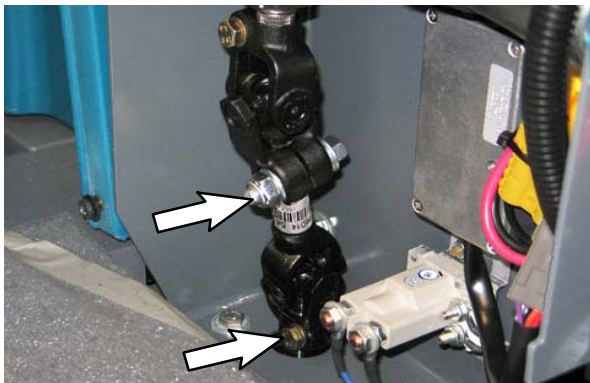
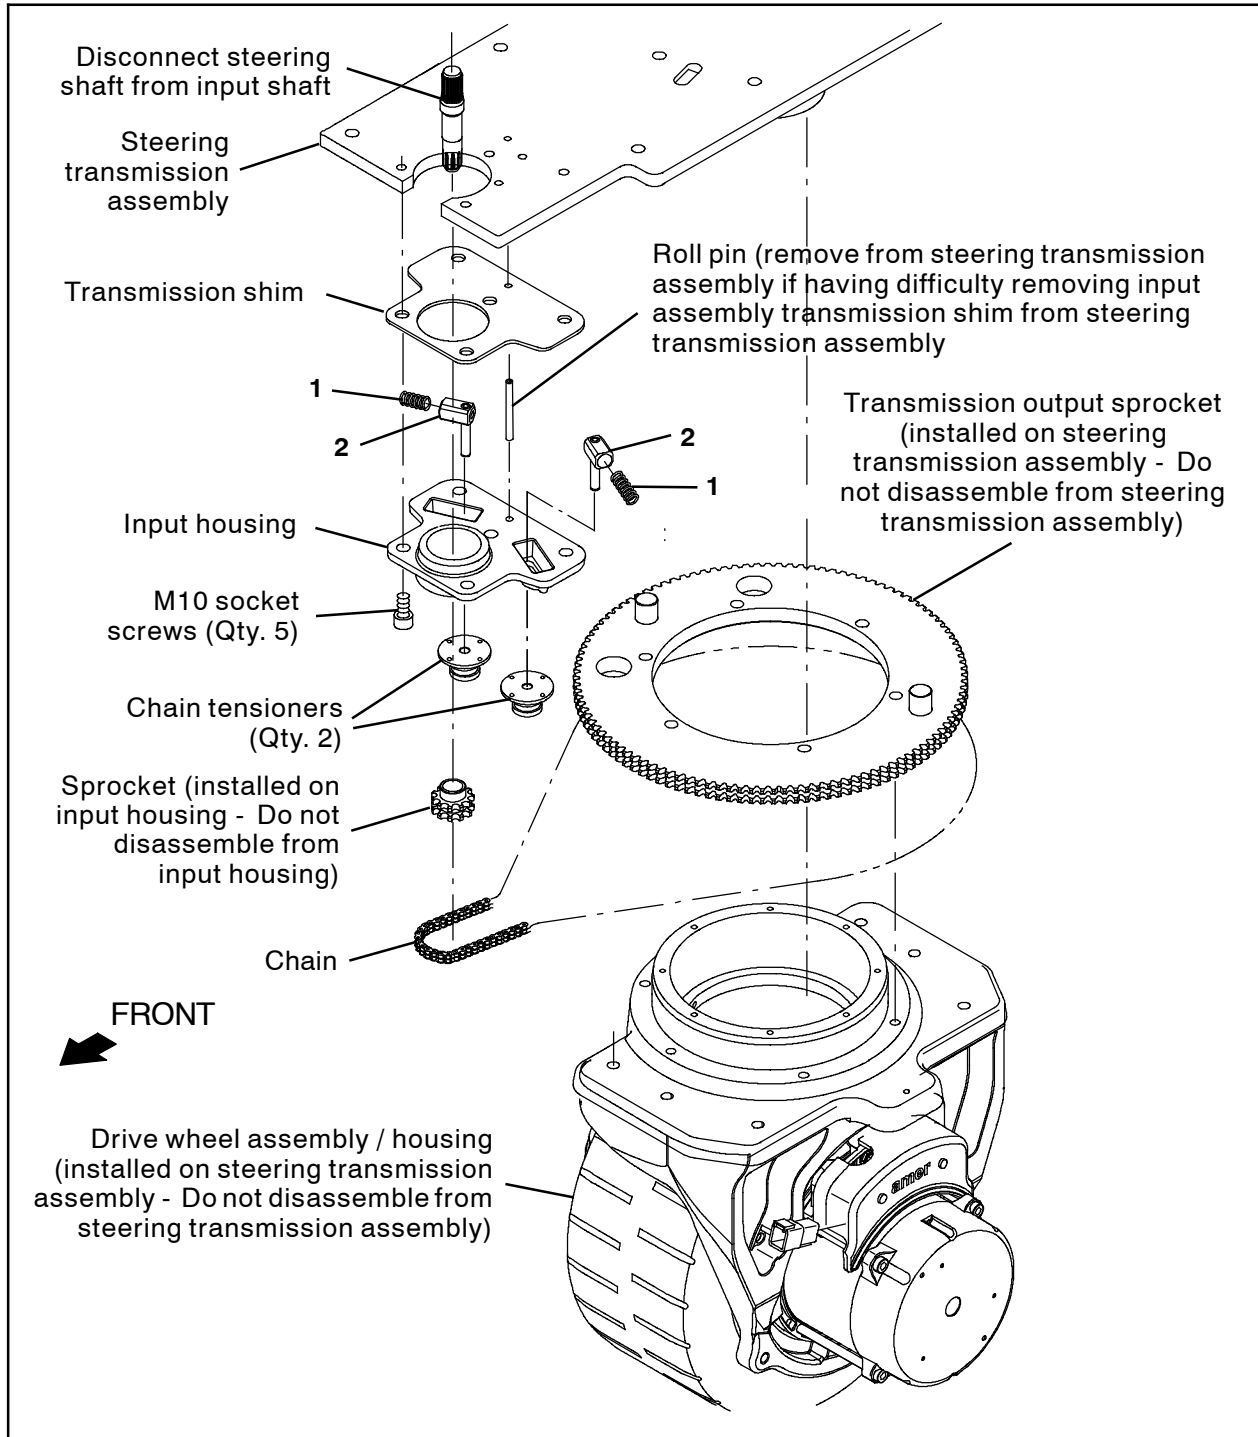
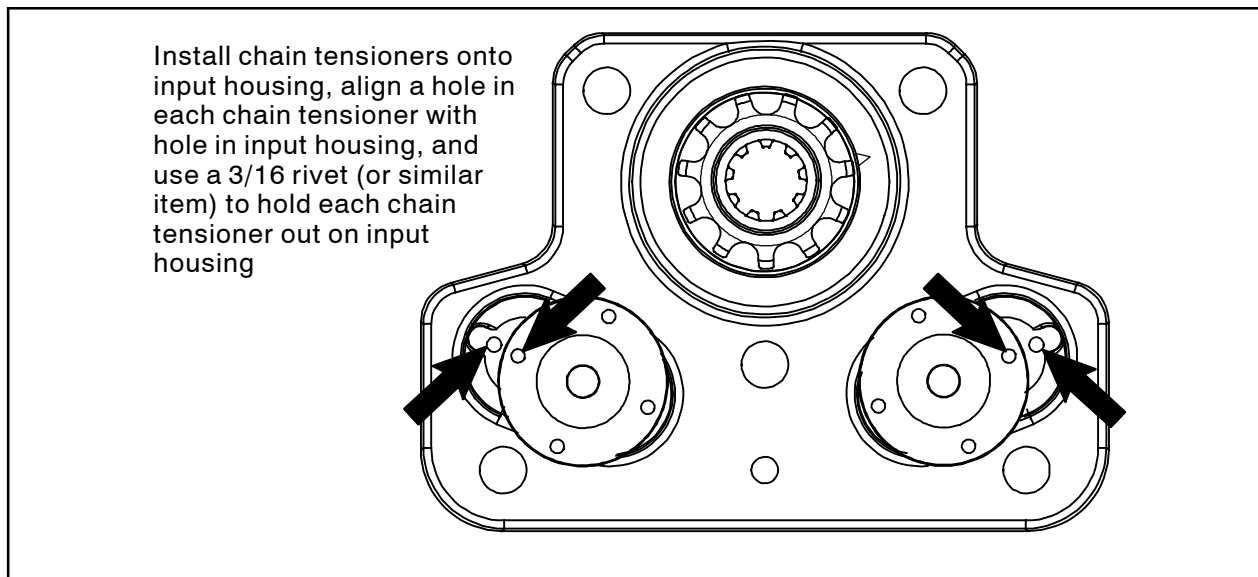

FIG. 3
FIG. 5
FIG. 6
6. **T17 machines without optional power steering:** Disconnect the steering shaft from the input shaft. Set all hardware aside. (Fig. 3)
1. Remove the chain from the sprockets on the the steering transmission assembly. Set the chain and both chain tensioners aside. (Fig. 5)
2. Remove the five M10 socket screws securing the input housing to the steering transmission assembly. Set the M10 socket screws aside. (Fig. 5)
3. Remove the input housing from the steering transmission assembly. Set the input housing aside. (Fig. 5)
*NOTE: If input housing is difficult to remove from the steering transmission assembly, remove the roll pin securing the input assembly and transmission shim to the steering transmission assembly. Set the roll pin aside. (Fig. 5)*
4. Remove the tensioner spring and follower pin from the input housing. Discard the tensioner spring and follower pin. (Fig. 5)
7. Use the five M10 socket screws to loosely install the input housing assembly onto the steering transmission assembly. **Do Not** completely tighten the M10 socket screws. (Fig. 5)
8. If roll pin was previously removed, reinstall the roll pin into the steering transmission assembly. (Fig. 5)
9. Cut the cable tie used to secure the input housing assembly together from the input housing assembly and tighten the M10 socket screws to fully secure the input housing onto the steering transmission assembly. (Fig. 5)
10. If roll pin was previously removed, carefully tap the roll pin into the input housing / steering transmission assembly. (Fig. 5)
11. Install the chain tensioners onto the input housing, align a hole in each chain tensioner with the holes in the input housing, and use a 3/16 rivet (or similar item) to hold each chain tensioner out on the input housing so they will not be placing tension onto the chain while it is being installed onto the sprockets. (Fig. 5 / Fig. 6)
12. Reinstall the chain onto the steering sprockets. (Fig. 5)
13. Remove the 3/16 rivet from the chain tensioners / input housing. (Fig. 5)
15. Reconnect the steering shaft to the input shaft. (Fig. 5 / Fig. 2 or Fig. 3)
16. Turn the steering wheel in the full range of motion in both directions. There should be no binding and the steering wheel should turn freely in both directions. (Fig. 5)